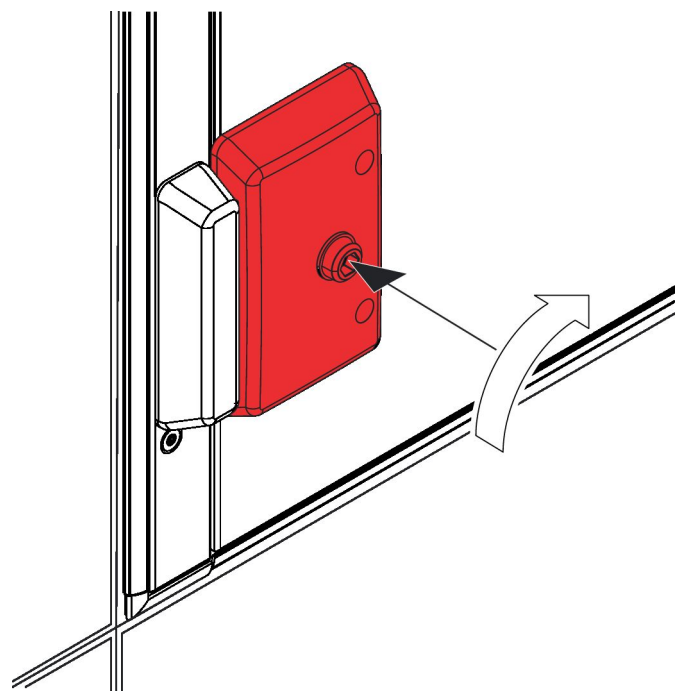

Fig. 49: Opening a lock with the special key (hazardous areas)
- ▶ Insert the TROX special key into the lock and turn it anti-clockwise as far as it will go (Fig. 49).